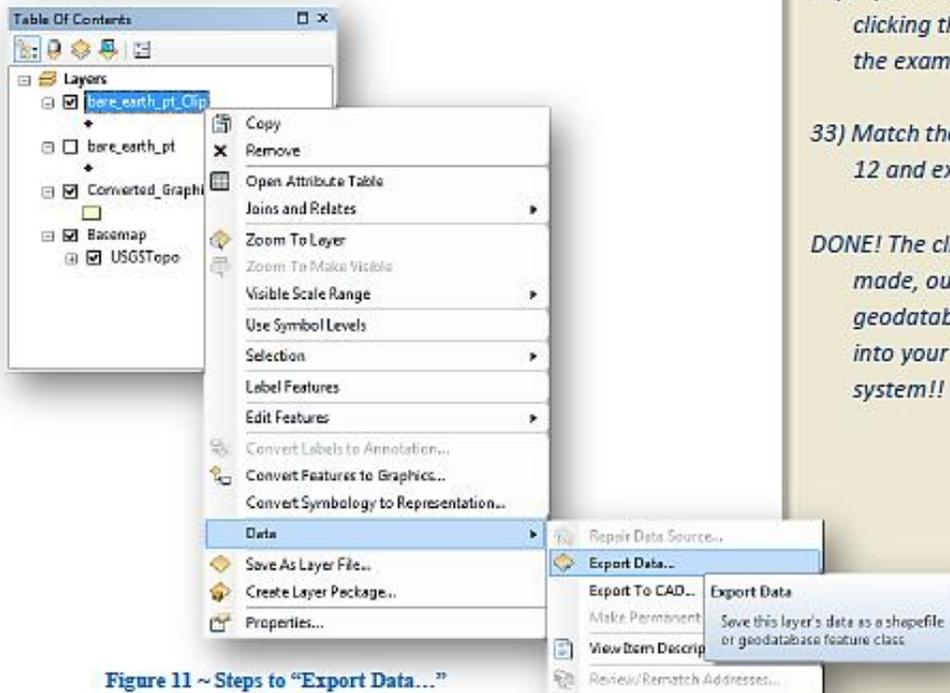

Figure 11 ~ Steps to "Export Data..."
32) Export the clipped points by right clicking the feature and following the example of Figure 11.